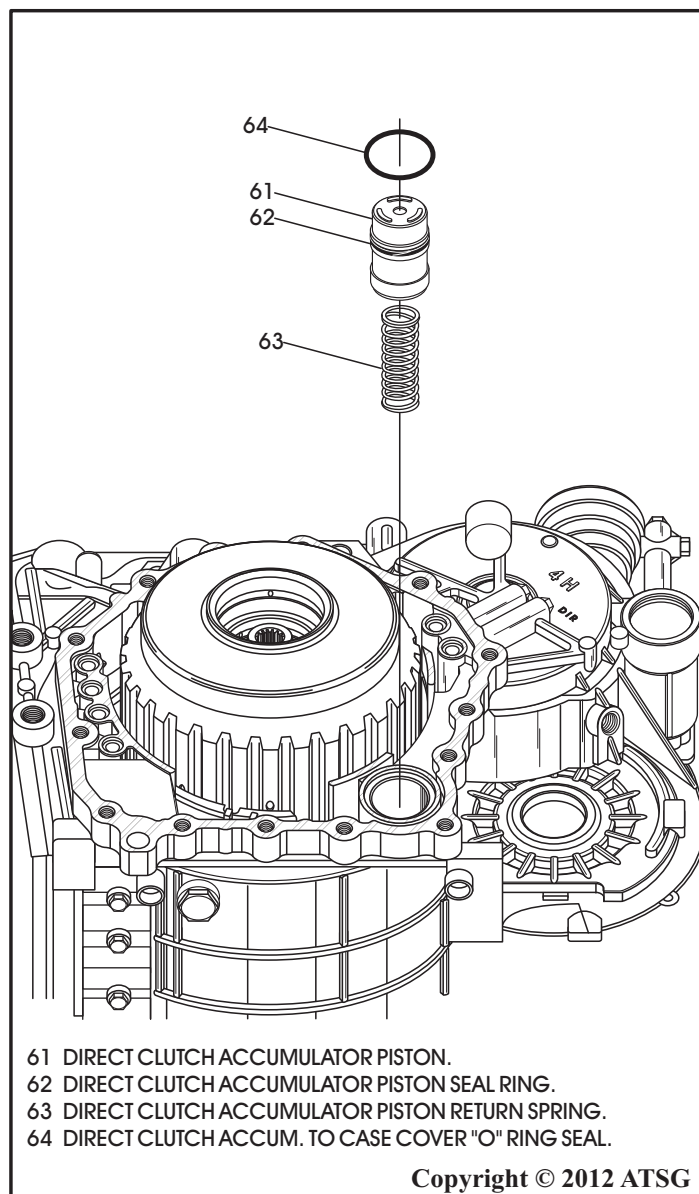

Figure 80
58. Remove and discard the case cover to the direct clutch accumulator "O" ring seal, as shown in Figure 80.
59. Remove the direct clutch accumulator piston and return spring, as shown in Figure 80.
60. Remove and discard direct clutch accumulator piston seal ring (See Figure 80).